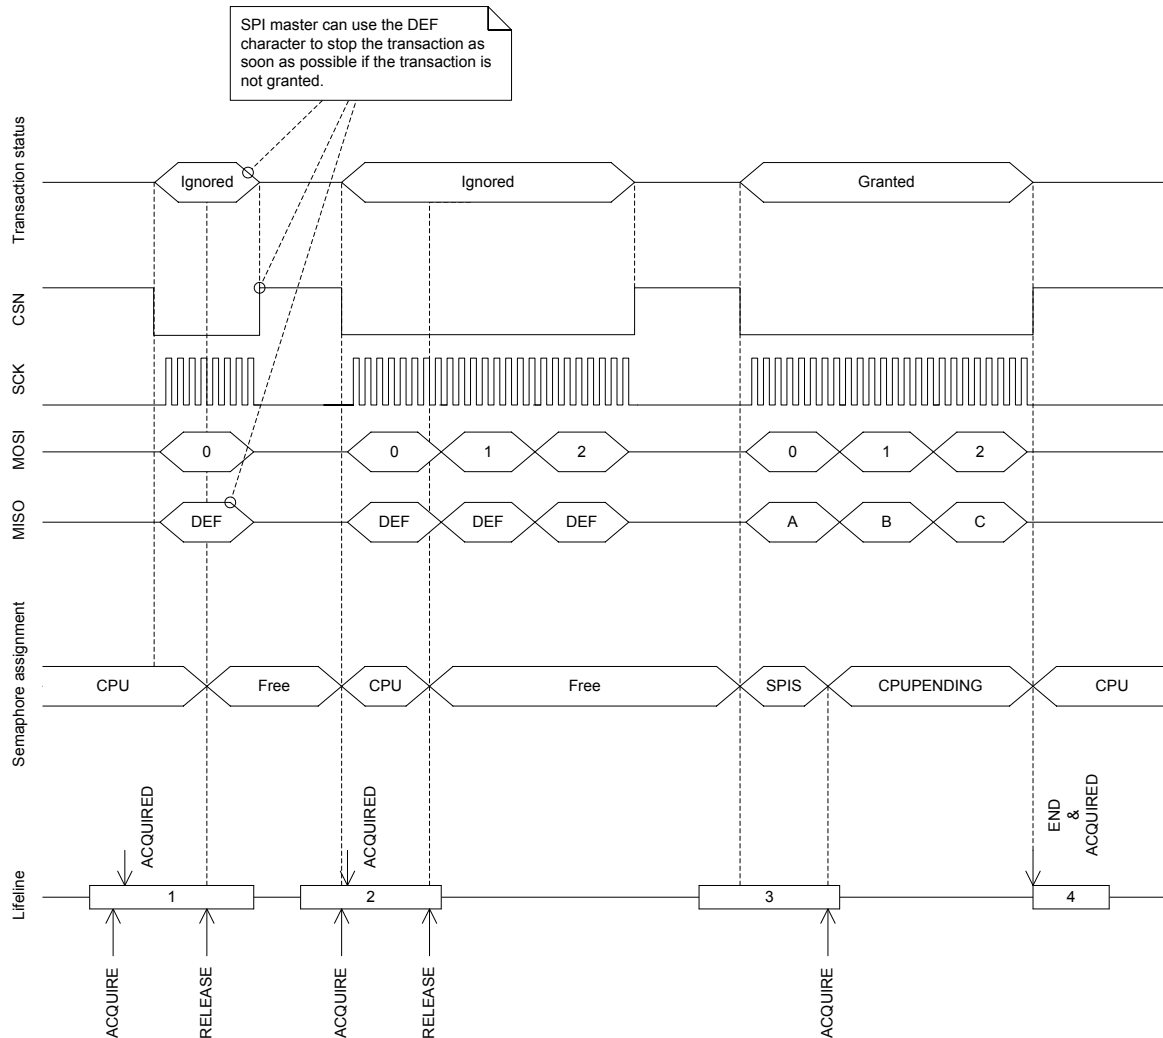

Figure 82: SPI transaction when shortcut between END and ACQUIRE is enabled
See Figure 82: SPI transaction when shortcut between END and ACQUIRE is enabled on page 353.
Before the CPU can safely update the RXD.PTR and TXD.PTR pointers it must first acquire the SPI semaphore. The CPU can acquire the semaphore by triggering the ACQUIRE task and then receiving the ACQUIRED event. When the CPU has updated the RXD.PTR and TXD.PTR pointers the CPU must release the semaphore before the SPI slave will be able to acquire it. The CPU releases the semaphore by triggering the RELEASE task. This is illustrated in Figure 82: SPI transaction when shortcut between END and ACQUIRE is enabled on page 353. Triggering the RELEASE task when the semaphore is not granted to the CPU will have no effect.
The SPI slave will try to acquire the semaphore when CSN goes low. If the SPI slave does not manage to acquire the semaphore at this point, the transaction will be ignored. This means that all incoming data on MOSI will be discarded, and the DEF (default) character will be clocked out on the MISO line throughout the whole transaction. This will also be the case even if the semaphore is released by the CPU during the transaction. In case of a race condition where the CPU and the SPI slave try to acquire the semaphore at the same time, as illustrated in lifeline item 2 in Figure 82: SPI transaction when shortcut between END and ACQUIRE is enabled on page 353, the semaphore will be granted to the CPU.